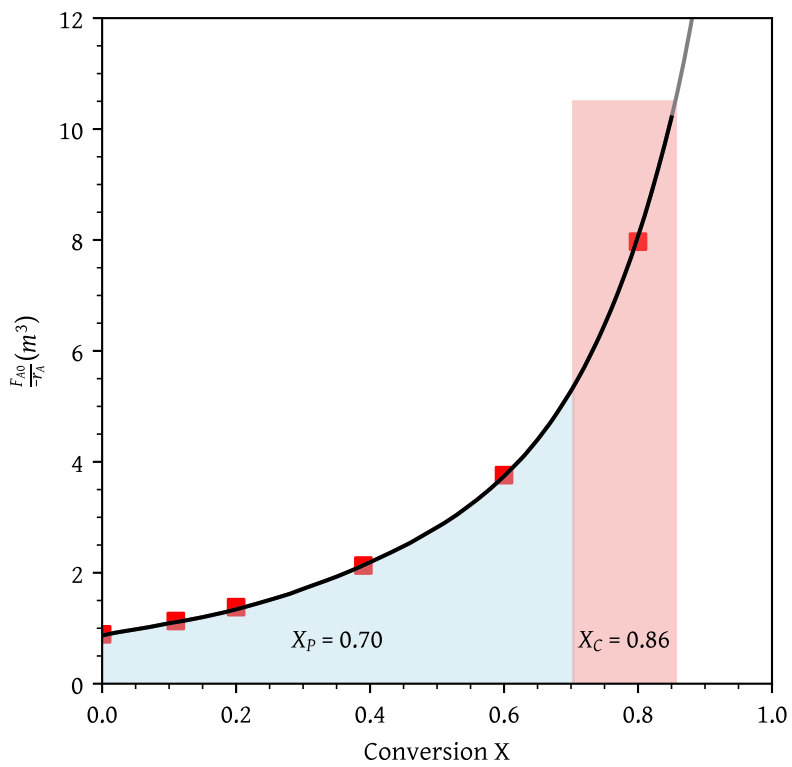

Figure 8: Conversion from a PFR followed by CSTR
- (f) A PFR followed by a CSTR (Figure 8).